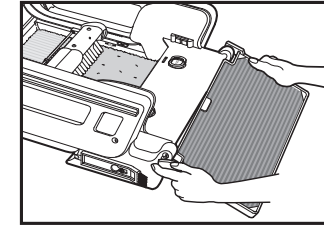

Fig. 5
- The Paw-Cleaning Ramp has two pivot pins that snap into holes on the sides of the Waste Receptacle Compartment Cover. Position the Paw-Cleaning Ramp with carpet-side facing up. Point the pivot pins toward the Disposable Waste Receptacle end of the unit. Lift the Paw-Cleaning Ramp and insert one of the pivot pins into one of the holes. Slightly stretch the other pivot pin to reach the other hole, then insert (Fig. 5). Tug slightly on the Ramp to ensure that it is firmly in place.